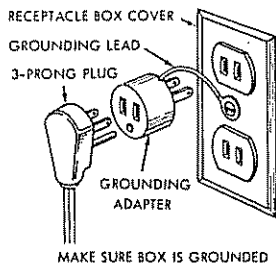

Figure 5
**CAUTION:** Many existing receptacle boxes do not have provision for 3-prong plugs and for this reason an adapter is included with the motor. (This adapter is not used in Canada.) To use the adapter, connect the grounding lead to the box before operating motor (See figure 5).